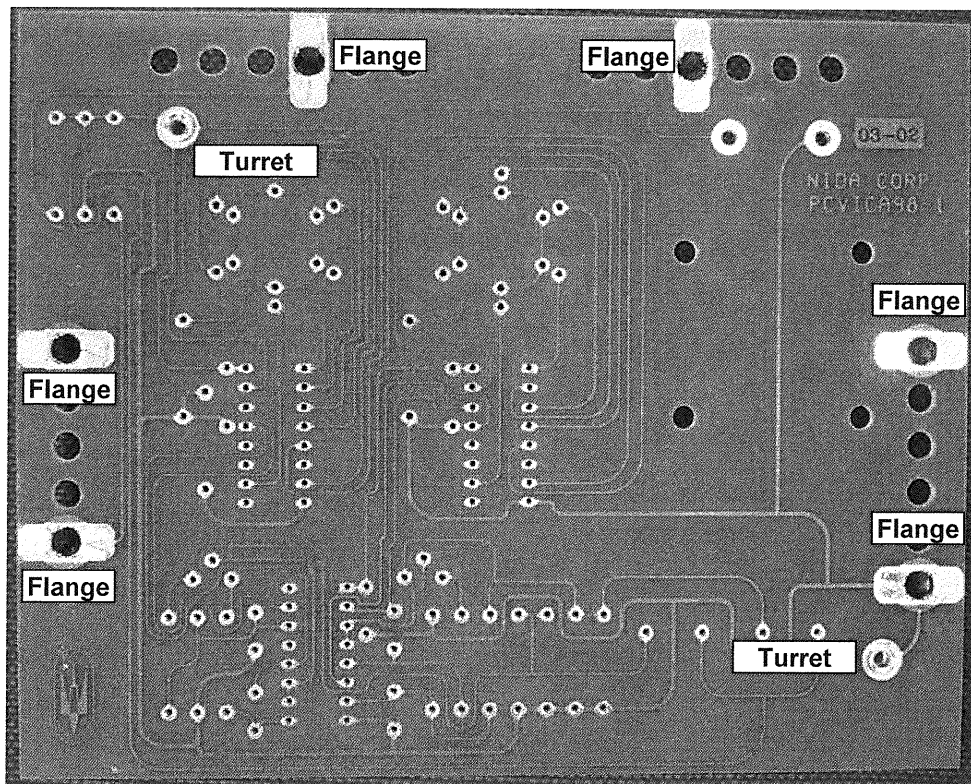

Figure 2
- b. Solder the six flanges and two turrets at the back of the circuit board as shown in Figure 2.